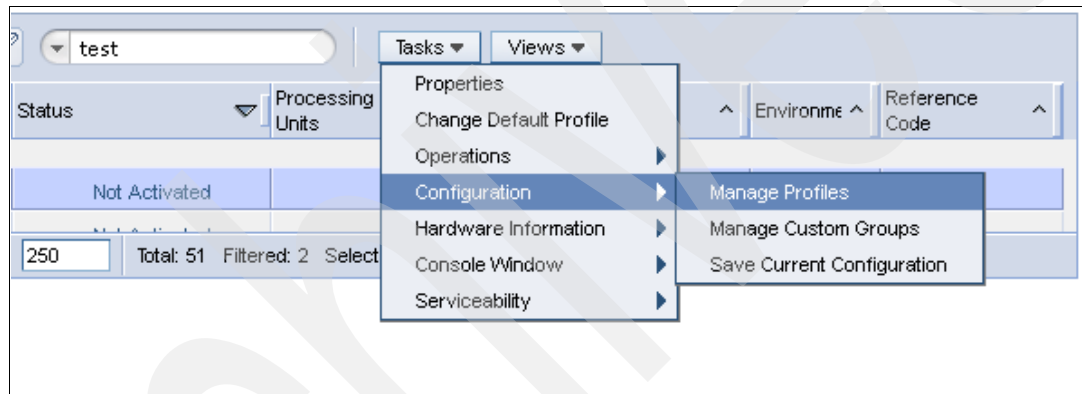

Figure 4-28 Editing a virtual server profile
These choices are shown in Figure 4-28.
8. Select **Tasks** → **Configuration** → **Manage Profiles**. The window that is shown in Figure 4-28 opens.